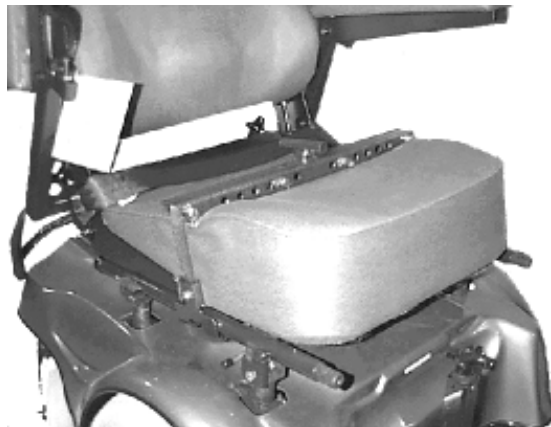

FIGURE 27.
1. Place the bar across the top of the seat with the straps hanging over the sides. See figure 27.